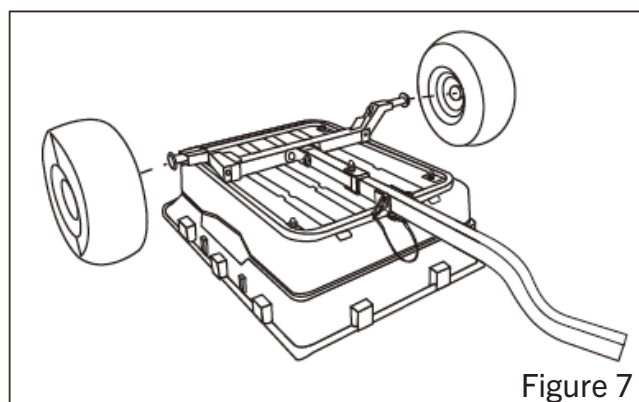

Figure 7
9. Place a 1" x 1/8" flat washer on each axle, followed by a wheel and second 1" x 1/8" flat washer. Lock each wheel onto its axle with a linchpin. FIGURE 7